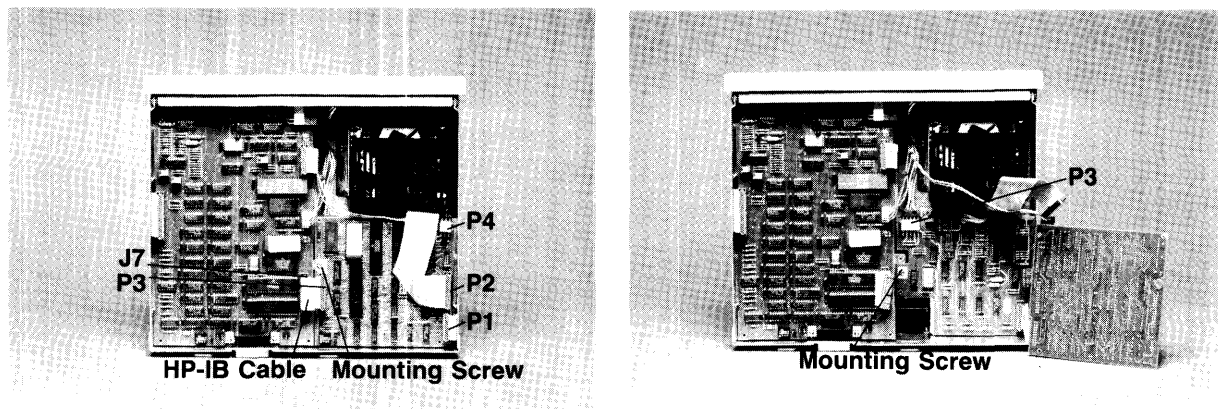

Figure 5-4. Controller PCA Removal
1. Detach the drive controller cable from A6P2. (See Figure 5-4)